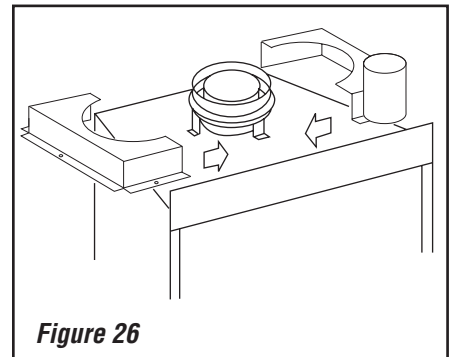

Figure 26
Step 5. Attach the cold climate kit, Model FTF8-CCK1-LD, around the chimney collar with the screws provided (see **Figure 26**).